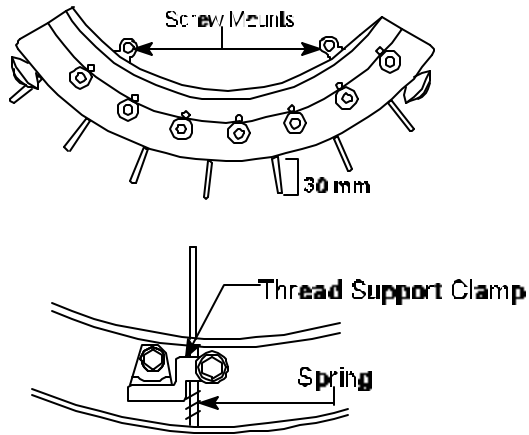

Figure 3
- Carefully **pull** Thread Support Pin out approximately 30 mm enough to clear Turret Assembly. (If pin is pulled out to far, clamp and spring will fall out). See Figure 3.